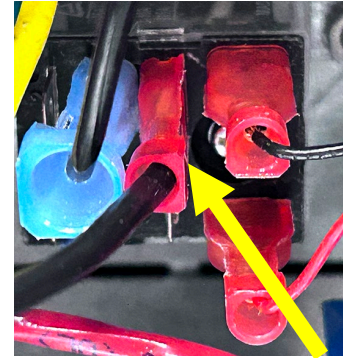

Figure 54
57. Attach the **TERMINATED** end of the **BLACK** wire to the clear OIB relay connector shown, in the control box (see Figure 54).